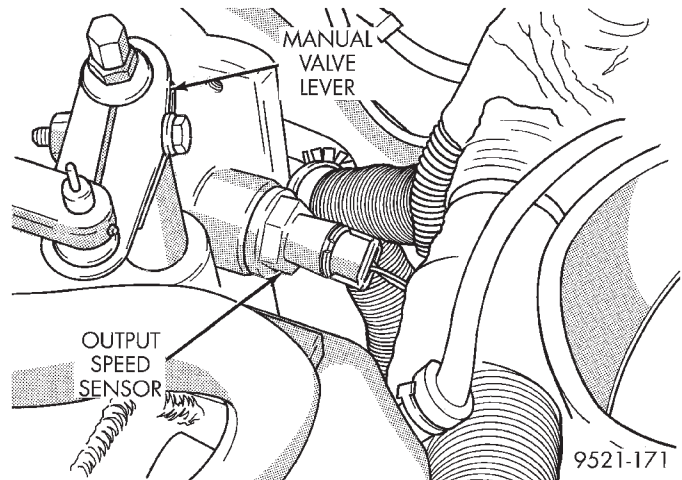
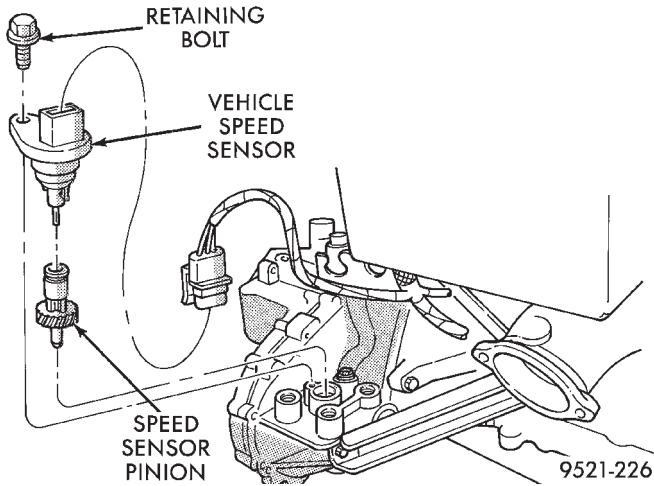

Fig. 58 Output Speed Sensor—Automatic Transmission
Fig. 59 Vehicle Speed Sensor—Manual Transmission
(21) Check electrical connection at the vehicle speed sensor (Fig. 58) or (Fig. 59).